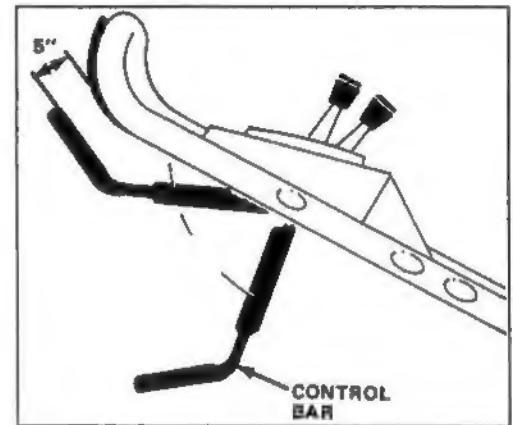

Figure 11
2. Push the control bar down to the lowest position (Fig. 11). This "cocks" the mechanism prior to engaging the blade.
3. Lift the control bar to the normal "blade engaged" position, about 1" below the handle (Fig. 11). The "fan" noise and bag inflation indicate that the mower blade is engaged and rotating.
6. Push the control bar down to its lowest position, cocking the mechanism (Fig. 11).